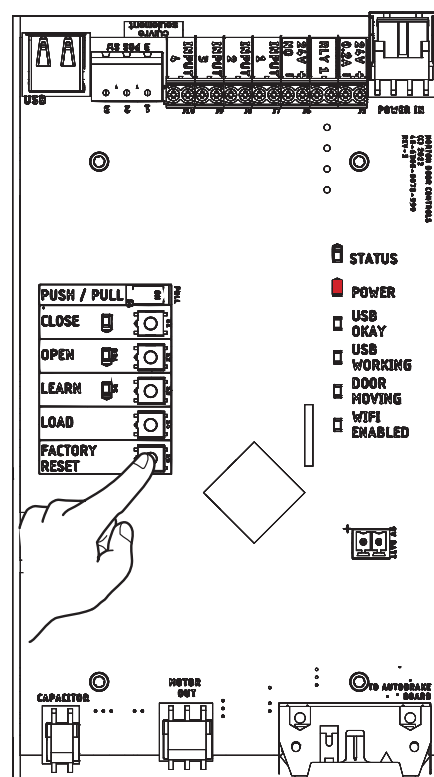

Figure 2
3. Use supplied green connectors to wire in any devices needing outputs, such as electric strikes. (Figure 2) See Input Connections and Output Connections on page 11 for information.
4. Turn on building power feed. Press and hold Factory Reset button until all LEDs are lit then release. (Figure 2)
**NOTE:** After Factory Reset, on control board there should be one solid red LED for POWER and one white LED that flashes every 1.5 - 2 seconds for STATUS. CLOSE button of Setup Buttons should be flashing orange continuously. (Figure 2)